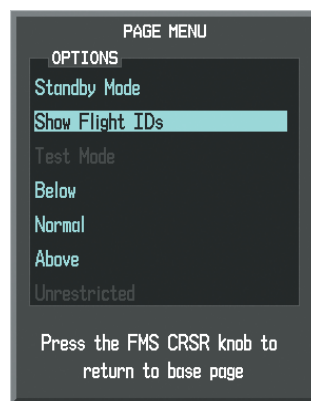

Figure 6-139 Traffic Map Page Menu
- 2) Turn the small **FMS** Knob to select 'Show Flight IDs' or 'Hide Flight IDs' (choice dependent on current state) (Figure 6-139).